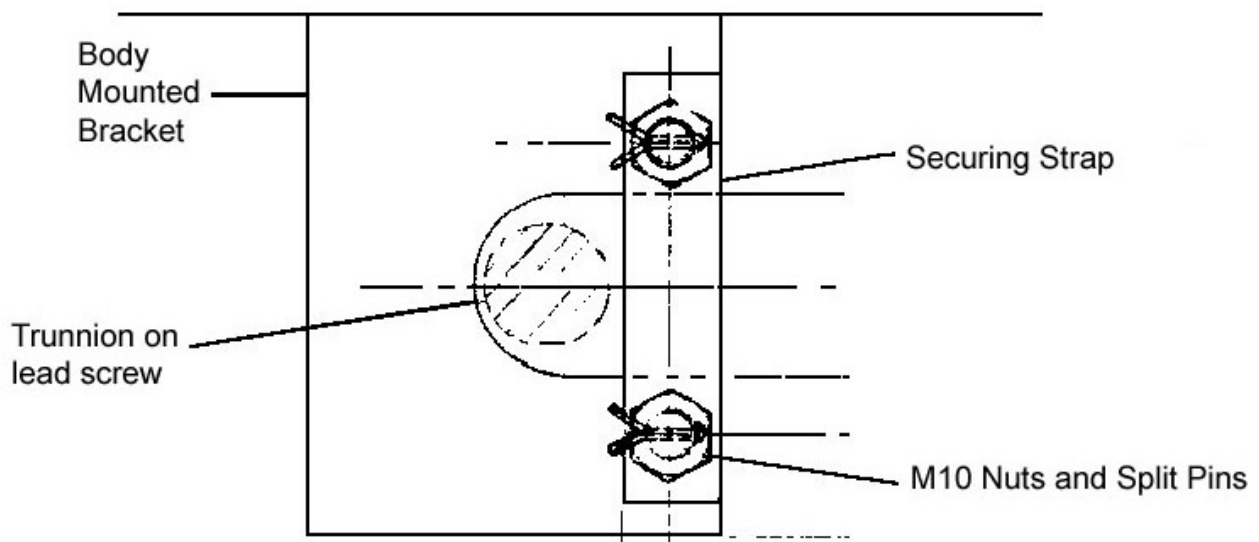

Figure 1: Screw Attachment to Vehicle Module
- 1.1.6 Remove the two retaining straps on the trunnion holder (see Figure 1).